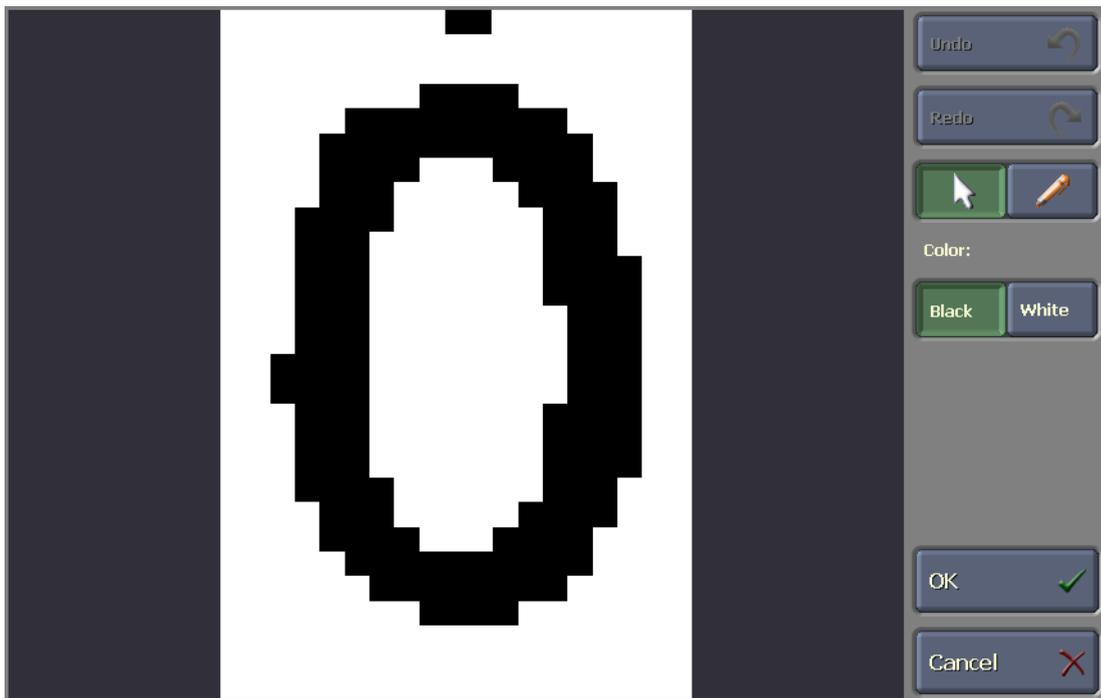

Figure A-9: Edit a Character Model
3. Click on pixel(s) in the font model to change their color. It is generally best to edit only those pixels in the model that are obviously not part of the character. For example, in Figure A-9 there are two extraneous pixels above the 'O' that should be removed from the model by changing them from black to white. If needed, click the **Undo** button to reverse the last action, and the **Redo** button to reapply the last action.